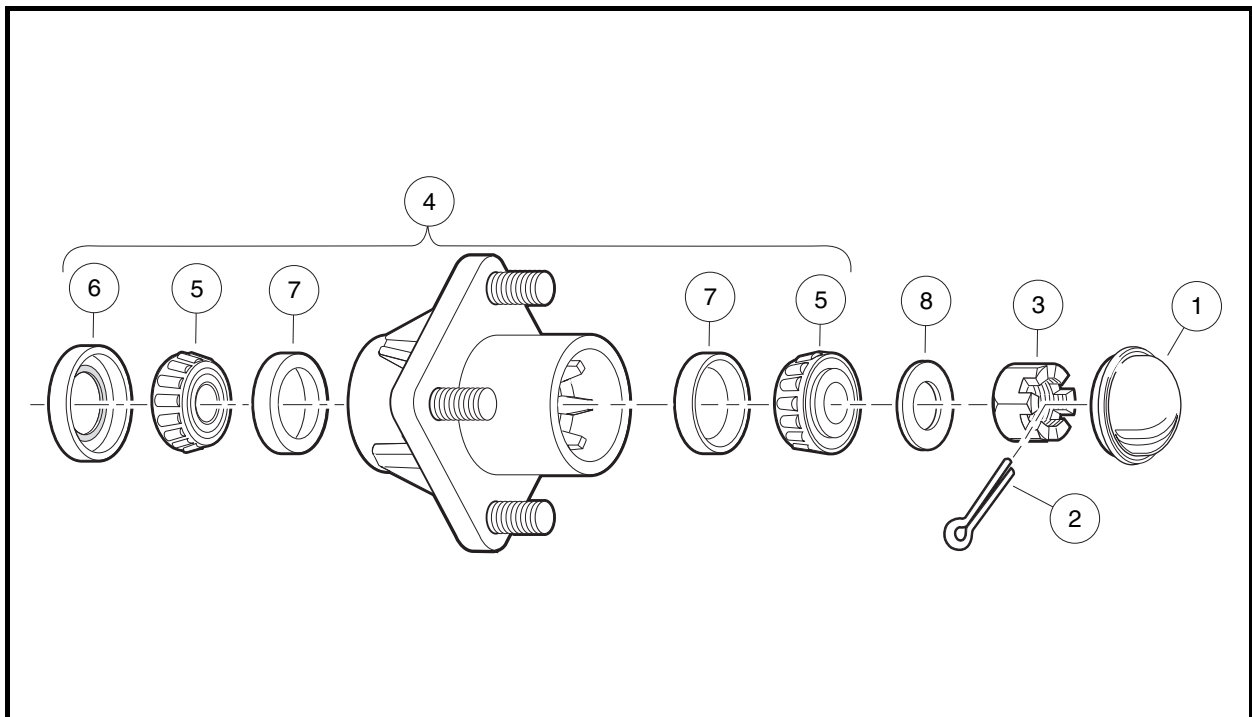

Figure 7-25 Front Wheel Bearings and Hub - Four-Wheel Brake Vehicles
2. Using your hands, attempt to rock the wheel and hub assembly back and forth on the spindle. If there is any observable movement of the wheel and hub on the spindle, remove dust cap (1) and cotter pin (2), and then tighten the spindle nut (3) until the bearing (5) fully seats in the bearing race (7) (**Figure 7-25, Page 7-25**).
4. Install a new cotter pin (2). If movement continues, replace the wheel bearings (5) as required.
- 2.1. Remove dust cover (1), cotter pin (2), spindle nut (3), and flat washer (8) (**Figure 7-25, Page 7-25**).
1. Pack the wheel bearings (5) and hub cavities, and lubricate cups (7) with wheel bearing grease or chassis lube. Make sure the grease is forced between the rollers (**Figure 7-25, Page 7-25**).
2. If bearing cups (7) were removed, press new ones in squarely against stops in the hub. **See following NOTE.**
3. Install the wheel bearings (5) into the hub and install a new seal (6), with the metal edge toward the hub. **See following NOTE.**
4. Install the hub assembly (4) and flat washer (8) on the spindle and start the spindle nut (3).
5. Tighten the spindle nut until the hub is hard to turn, then back the nut (3) off until the hub turns freely. Install a new cotter pin (2). **See following NOTE.**
7. Install the dust cap (1).